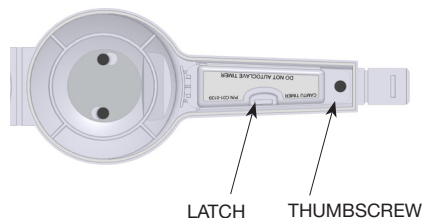

Figure 4: CAMTU Timer
**Note:** Alternatively, the CAMTU Housing (not the Regulator) can be autoclaved at 250°F (120°C) for up to 45 minutes. The Timer must be removed during Auto Clave procedure (see Figure 4).
To remove the timer, unscrew the thumbscrew shown in Figure 4. To replace the battery, rotate the latch and open the cover. The timer uses a AAA battery.